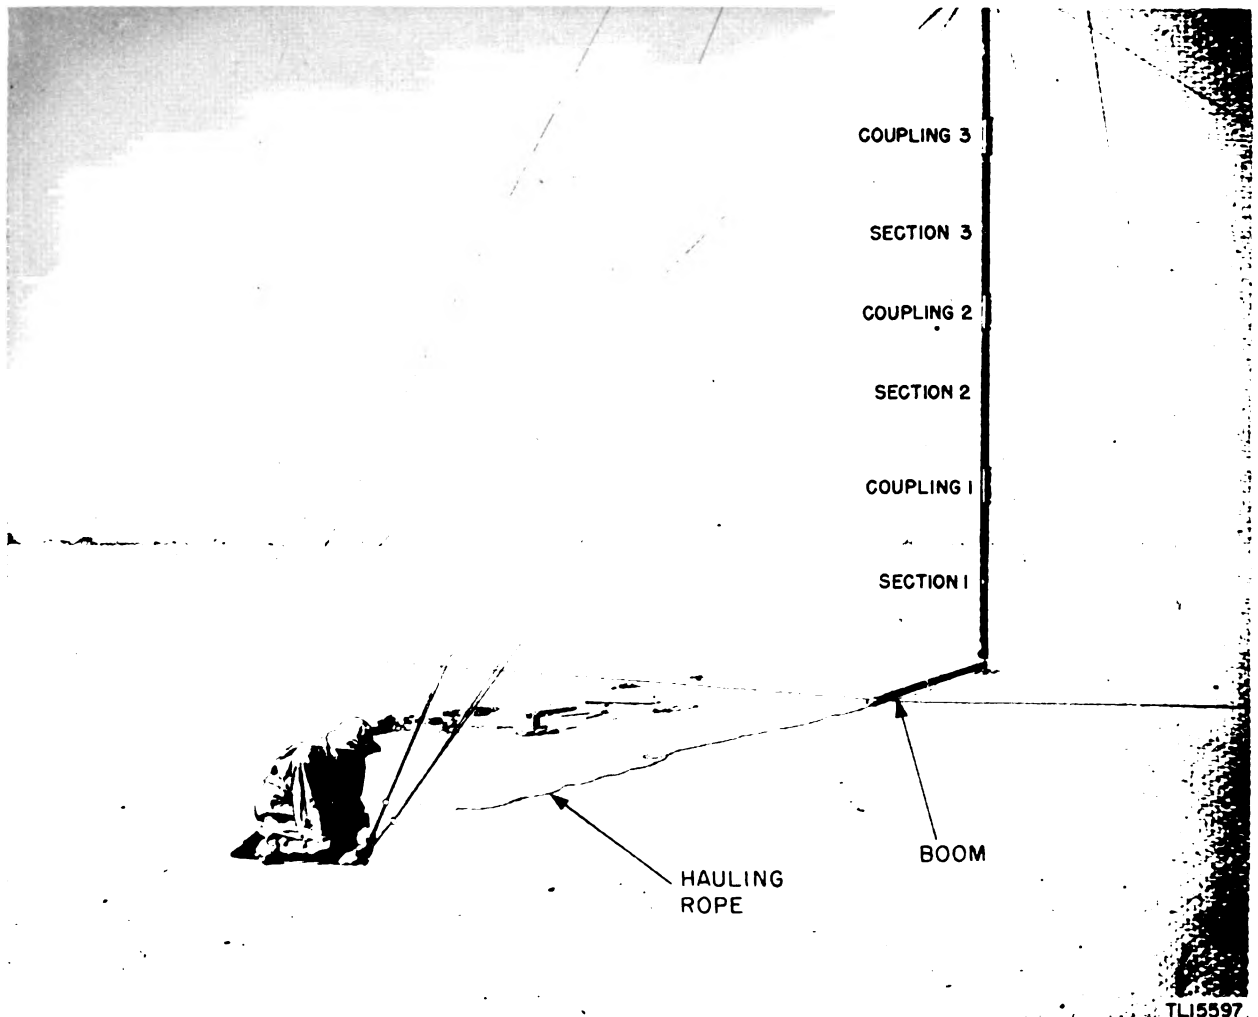

Figure 20. Stake erection and completion of mast erection.
(6) The mast will now be erect and can easily be held there by the pressure being exerted on the boom. The other man should now walk to the opposite side of the mast and inspect it for proper vertical position. If not in perfect vertical position, the tensions on the various guy ropes must be varied by readjusting the various Fasteners FT-9.
(7) When the mast is vertical, the boom attaching rings are disconnected from the boom and attached to the remaining forward stake. Be certain to have the guys taut at all times when transferring them from the boom end to the stake (figs. 20 and 21).